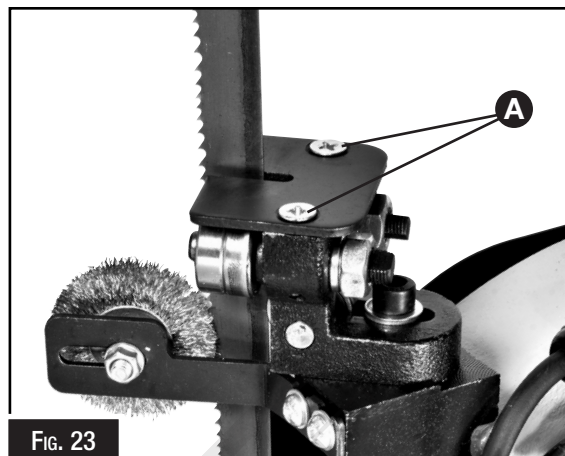

FIG. 23
5. Unscrew 2 screws (A) from the blade cutting platen table. Fig. 23.
6. Fit the Vertical Cutting Table over the platen table and fix using the 2 screws (A).
6. Fit Vertical Cutting Table support bracket under the Vertical Cutting Table as shown in fig 23. by loosening the guide knob (B) to slide the bracket into place then fix to the Vertical cutting table via the top mounting hole using supplied screw (C). Lastly re-tighten the guide knob (B) to lock in place.